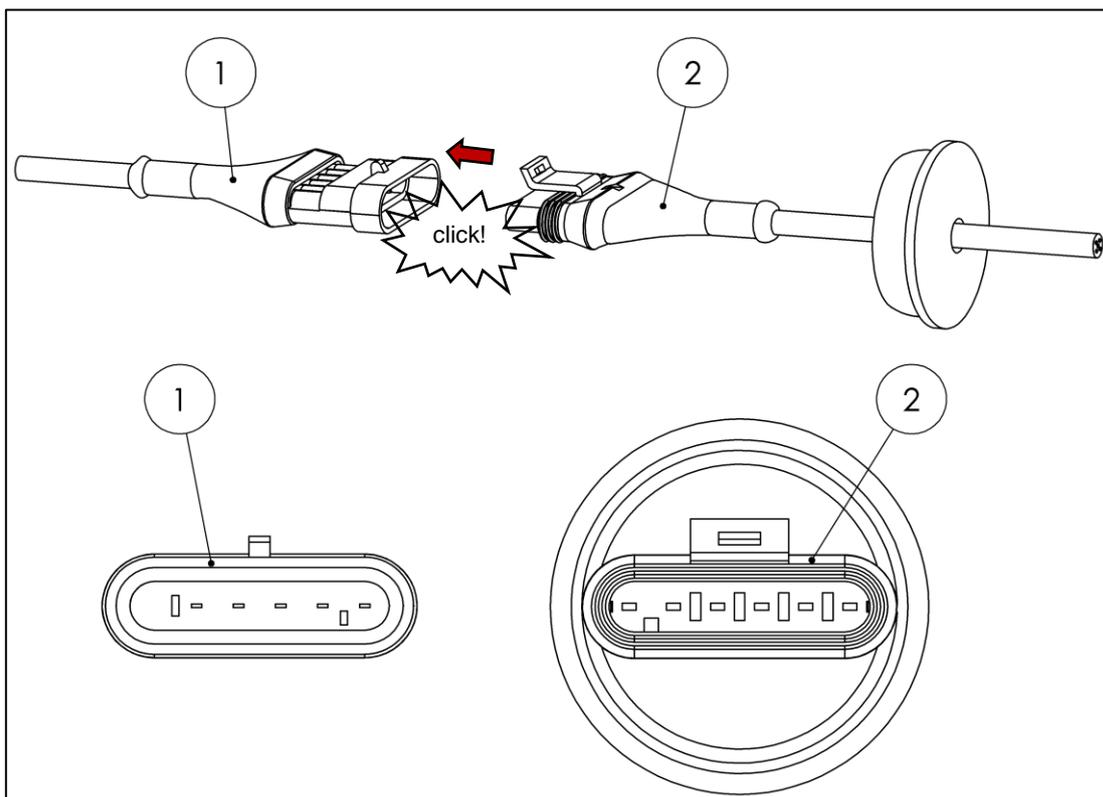

Fig. 67
- Connect the platform cable connector (1) to the control unit connector (2) (see Fig. 67)